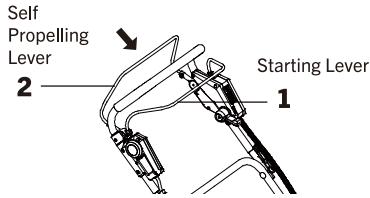

FIG. 11
6. Press and hold (1), you can move forward at a constant speed, but cannot go back (Fig. 11).
1. To use the self propelling feature. Pull the lawnmower bail toward the handle and then pull the self propelling lever (2) at the same time (Fig.11).
2. To stop forward motion without stopping the engine, release the self-propelling bar (2). Hold the bail (1) down against the handle to continue mowing without self-propelling. (Fig. 11).